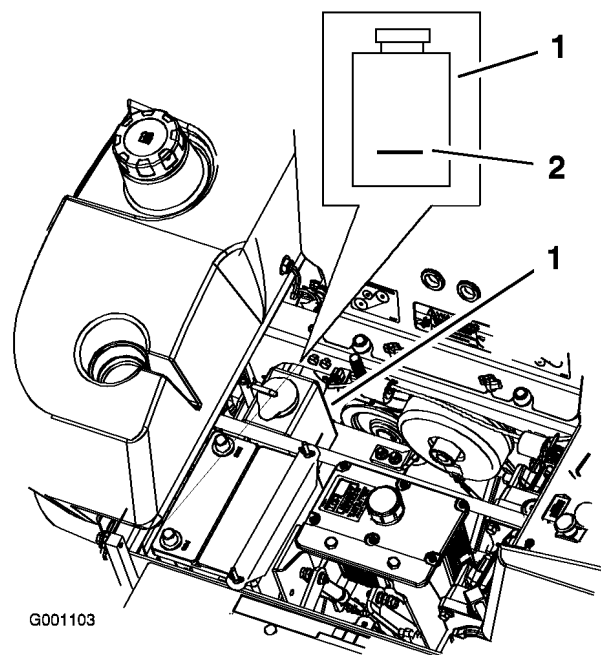

Figure 52
3. With the engine cool, check the overflow bottle level. The fluid needs to be up to the bump on the outside of the overflow bottle (Figure 52).
4. If the coolant level is low, add a 50/50 mix of extended life antifreeze/Dex-Cool® and water to the overflow bottle (Figure 52).
5. Add the 50/50 coolant mix to the overflow bottle and fill it to the indicator line on the bottle (Figure 52).